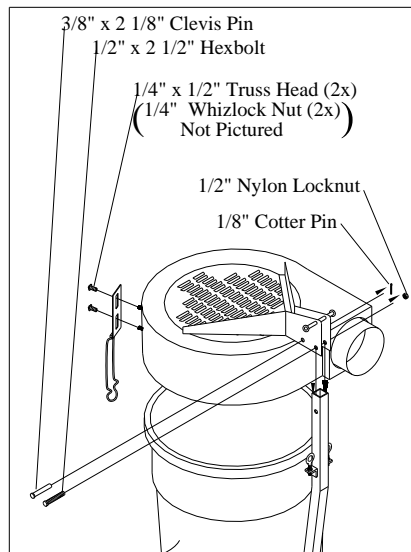

Fig. 8
8. Place container in container ring. Set top assembly down onto container. Align 1/2" swivel hole in top assembly (hole furthest from top) with top hole in vertical support. Secure with 1/2" x 2 1/2" hexbolt and 1/2" nylon locknut. Tighten until slight drag can be felt when pivoting assembly. **(Fig. 8)**